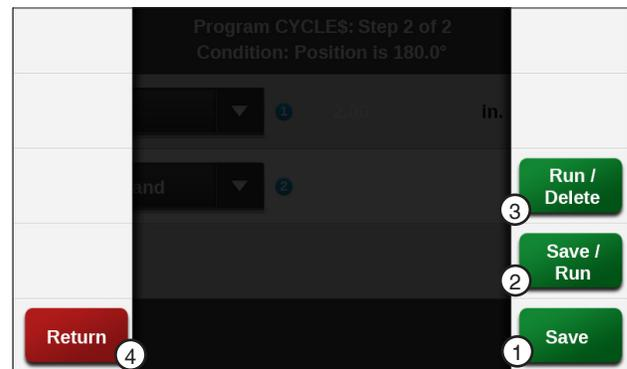

Figure 139-4 1. Save 2. Save/Run 3. Run/Delete 4. Return
9. Finish the program by selecting one of the following. Refer to Figure 139-4.